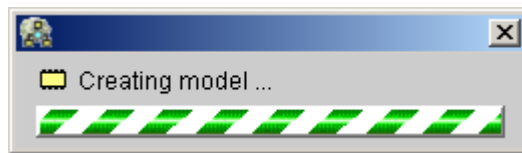

Figure 65 : Bar graph during the component creation
- ◆ Click on command **Create new model**; the following bar graph is displayed (Figure 65).